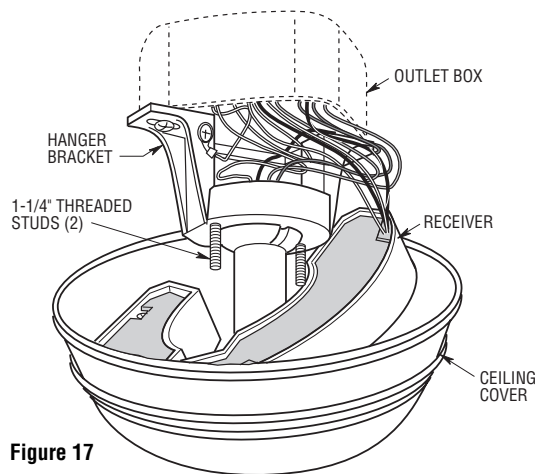

Figure 17
- 6. Screw the two 1-1/4" threaded studs (supplied) into the tapped holes in the hanger bracket (Figure 17).